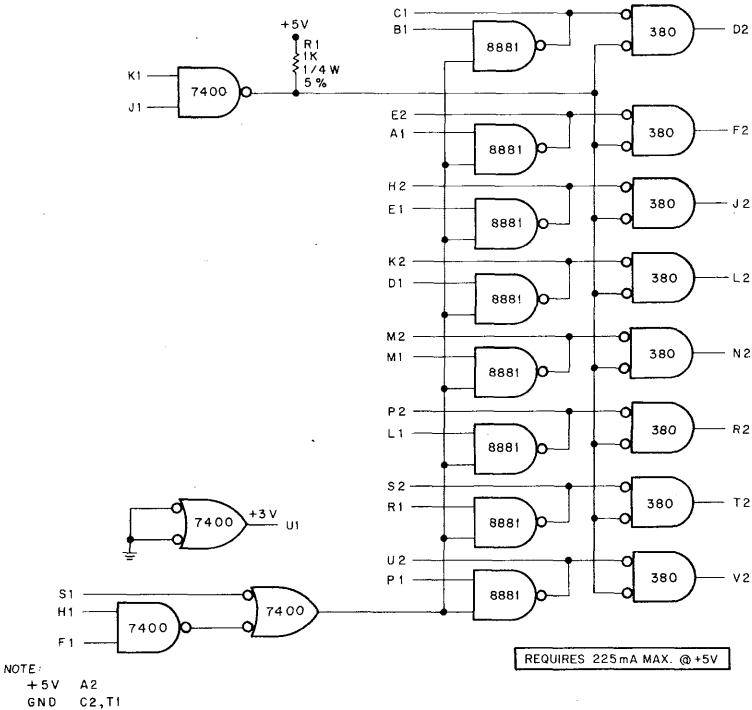

Figure 2-8 M785 UNIBUS Transceiver (schematic diagram)
2.2.3.3 M785 UNIBUS Transceiver. This module consists of eight pairs of DEC 8881 Drivers and DEC 380 Receivers which are used for bidirectional interfacing to the UNIBUS. The drivers and receivers have two common gate lines; one for receivers, one for drivers. The driver input loading is 1.25 standard unit load and the receiver fanout is 7 standard TTL unit loads. The module is a single-height, 8.5-inch-long Flip-Chip. A circuit schematic of the M785 Transceiver Module is shown in Figure 2-8.